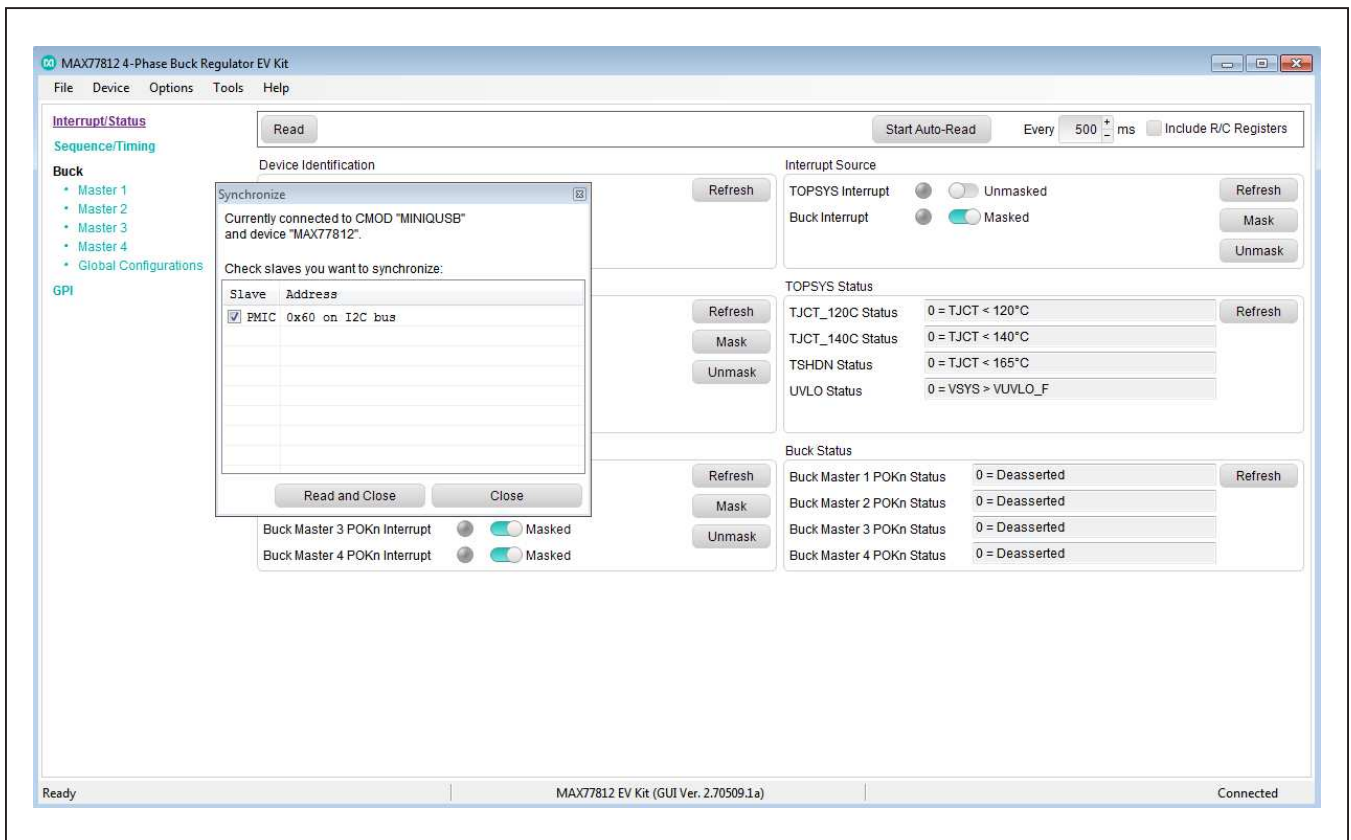

Figure 4. MAX77812 EV Kit GUI Connection
- 4) Enable the power supply output and confirm the input current is low (< 100µA). Open the MAX77812 GUI window and click on **Device** then **Connect**. If the connection is successful, it displays the message **Currently connected to MINIQUSB CMOD and DEVICE MAX77812**. Click **Read** and close (Figure 4).